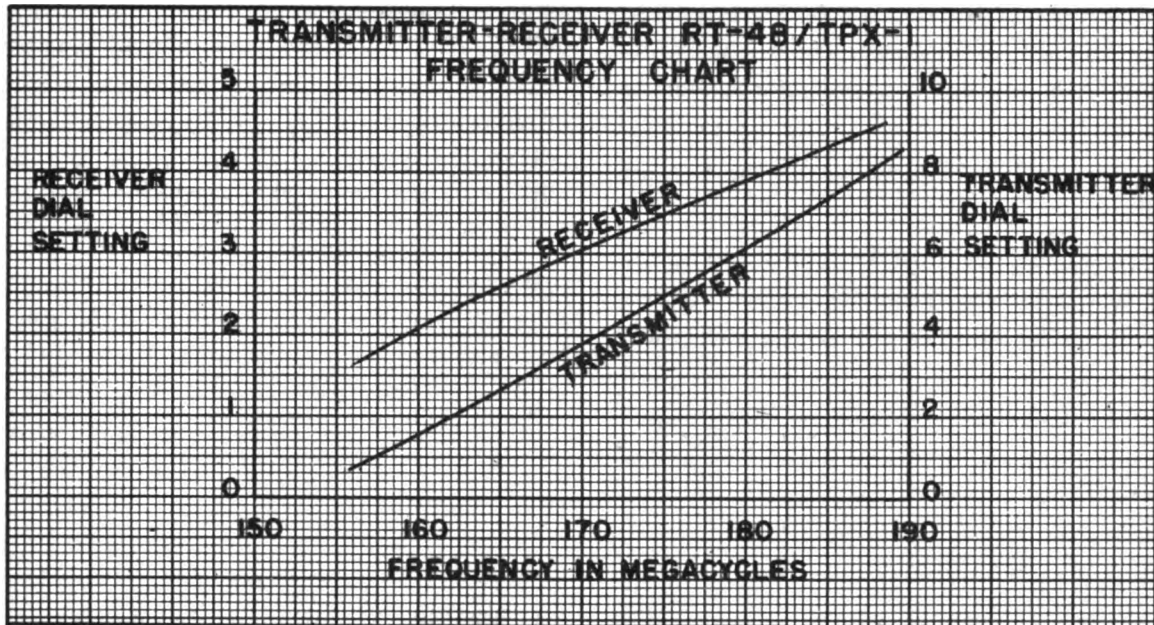

Figure 21. Radar Set AN/TPX-4, approximate calibration of tuning dials.
b. Figure 21 shows the approximate settings of the RECEIVER-OSCILLATOR and TRANSMITTER FREQUENCY dials on the transmitter-receiver for the frequencies in Mark III IFF band. If the frequency to be used is 170 mc, for example, look up along the vertical line corresponding to 170 mc in figure 21. This vertical line intersects the slanted transmitter line at 3.8 on the horizontal line scale marked transmitter dial setting at the right in figure 21. Turn the TRANSMITTER FREQUENCY dial on the transmitter-receiver to 3.8. The vertical line corresponding to 170 mc intersects the slanted receiver line at 3.05 on the horizontal line scale figure. Turn the RECEIVER OSCILLATOR dial on the transmitter-receiver to 3.05.